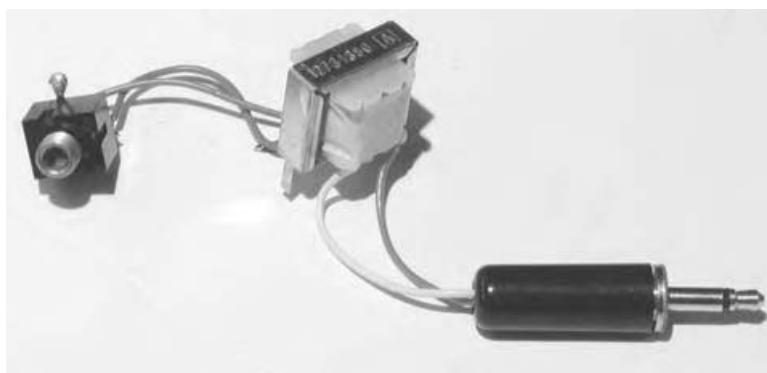

Figure 8.1 A transformer interface for driving a piezo disk.
3. Solder one of the *primary* wires to the tip connection of a female jack that mates with the plug you used on your contact mike (see chapter 7). Solder the other primary wire to the sleeve connection of the jack (see figure 8.1). Once again, polarity is irrelevant here—it does not matter which of the two primary leads goes to which connection.